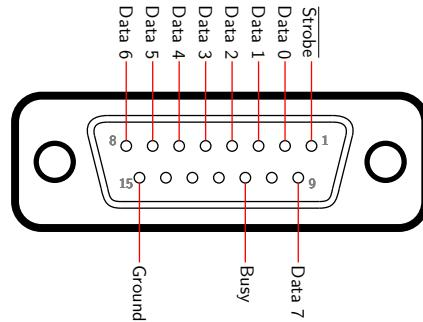

Figure 3.2: DB-15 male connector (solder side).
1. Solder the pins of the male double-row DB-15 connector as shown in Figure 3.2. Note that the pin numbers shown in the diagram are for the solder side of the connector.